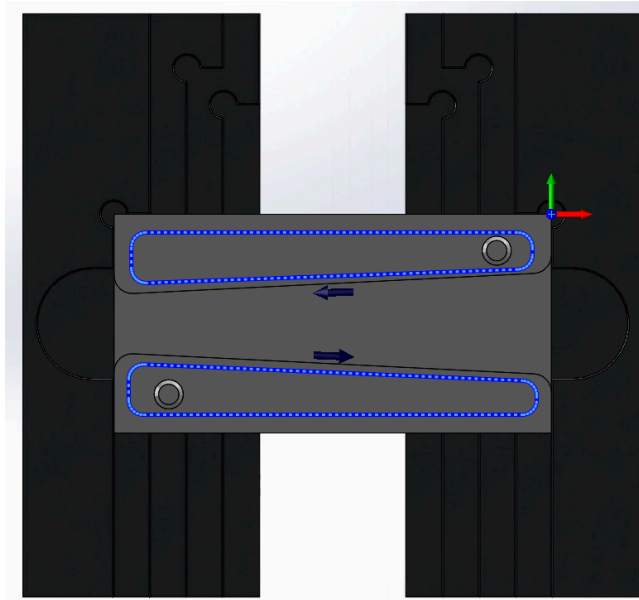

Figure 11: Toolpath Showing Cutting Direction for 2D Contour Operation
- Reverse will change which side of the contour is being cut as shown below in figure 11.